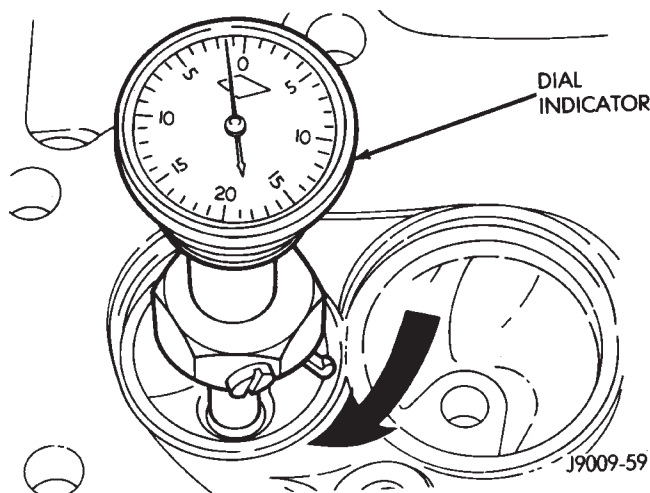

Fig. 65 Measurement of Valve Seat Runout
(1) Install a pilot of the correct size in the valve guide bore. Reface the valve seat to the specified angle with a good dressing stone. Remove only enough metal to provide a smooth finish.
(2) Use tapered stones to obtain the specified seat width when required.
(3) Control valve seat runout to a maximum of 0.0635 mm (0.0025 in.) (Fig. 65).